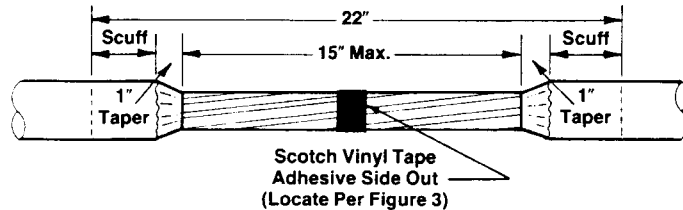

Figure 2
2. Remove entire cable jacket from repair area, for a length not exceeding 15" (380 mm). (Figure 2)
3. FULLY taper jacket ends for 1" (25 mm). (Figure 2)
4. THOROUGHLY scuff jacket ends EQUALLY, per Figure 2. Clean dust from scuffed area. (Figure 2)
6. Bind conductors together with band(s) of INVERTED vinyl tape (adhesive side out), located per Spacer Web positions shown in Figure 3. (Figure 2)